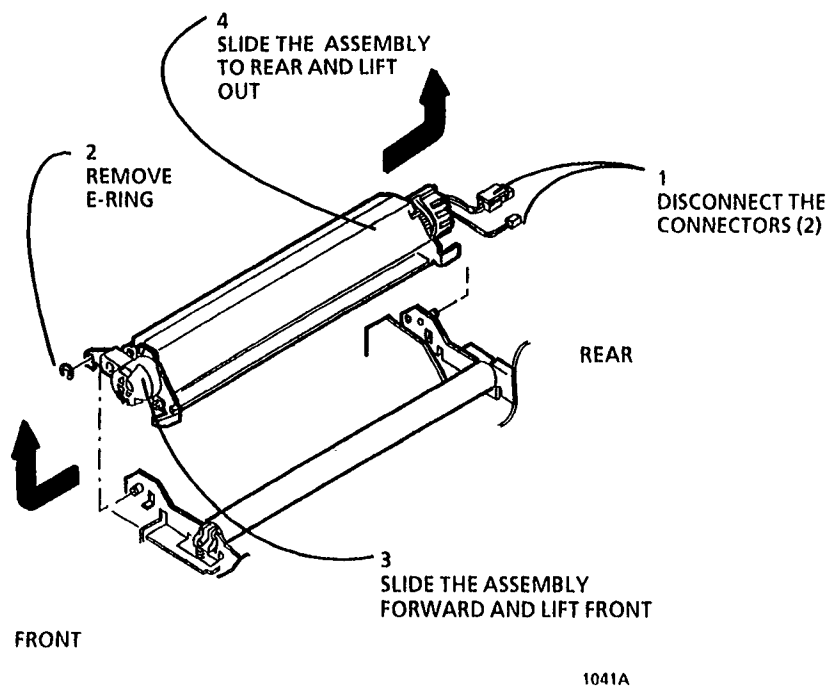

Figure 1. Removing the Fuser Assembly
2. (Figure 1): Remove the fuser assembly.